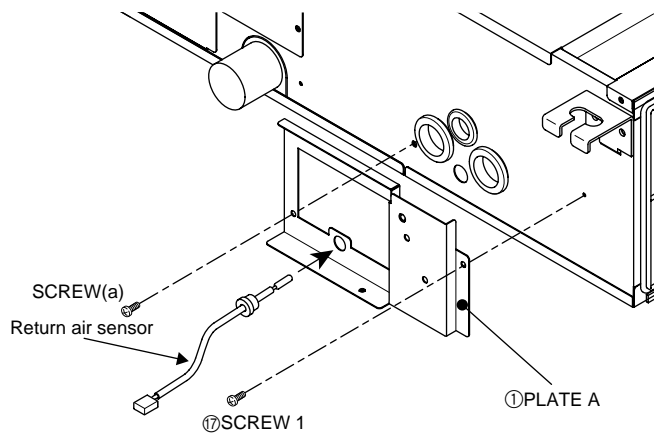

Fig. 8
- (1) Install ①PLATE A and the return air sensor to the unit. Unscrew the screw (a) from the unit and screw ①PLATE A onto the unit with the screw (a). (⑰screw) (Fig. 8)